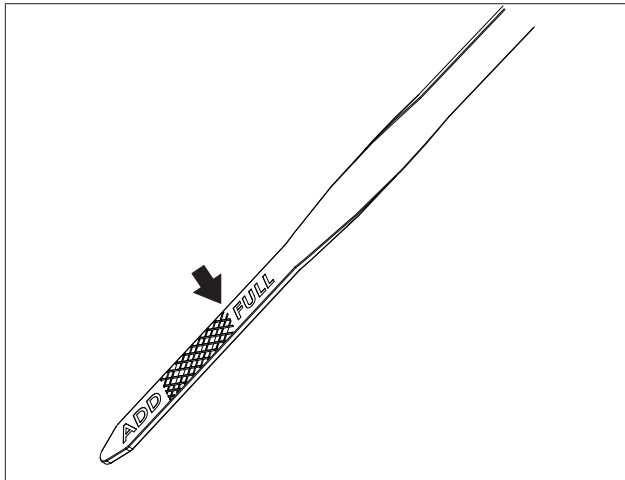

Figure 12
3. Remove the dipstick. Wipe it dry with a clean cloth and completely reinsert it into the dipstick tube. See figure 12, page 24.
- Fill the engine with the proper amount of engine oil. See Figure 12.